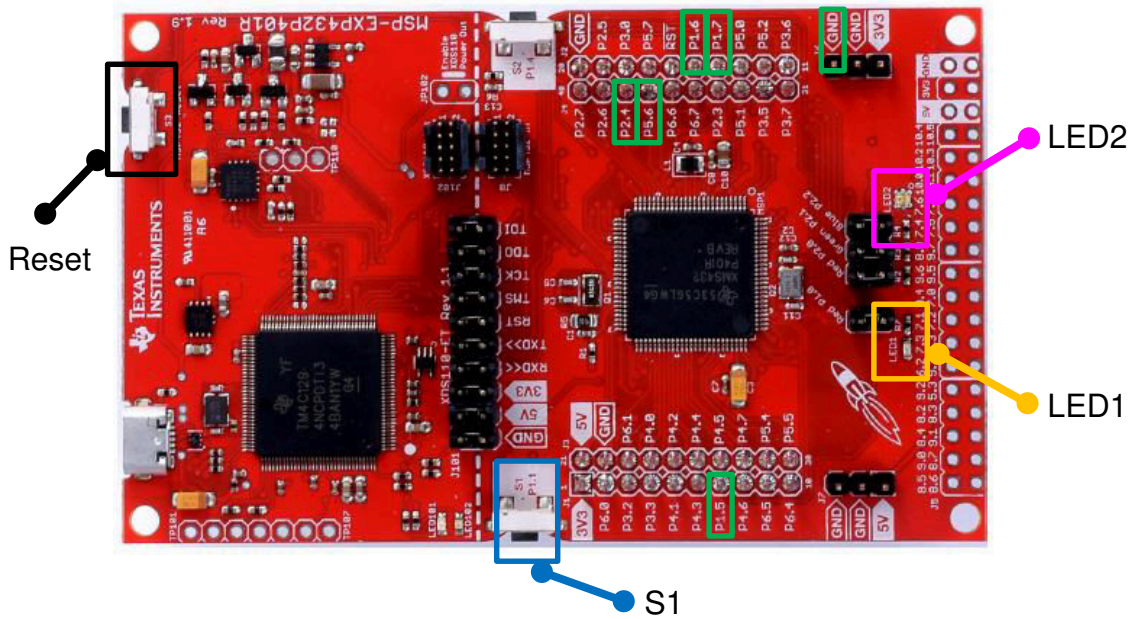

Figure 2-9. Input and Output Interface of MCU Launchpad
Step 1: Power on the DC power supply and reset MSP-EXP432P401 Launchpad. The reset button is shown in Figure 2-9.
Step 2: All white LEDs of TLC6C5748EVM board will be on and LED2 is on with green color if there are no problems. Otherwise, The LED1 and LED2 shown in Figure 2-9 will be on with red, blue or purple color to indicate the specific fault. The control signals of TLC6C5748-Q1 and the meanings of different status of LED1 and LED2 are summarized in Table 3-1. The number of LED short and LED open fault can be read back respectively through expressions in CCS along with the location of fault pins. Please refer to the concrete steps for adding watching expressions in CCS IDE. The meaning of fault data can be found from the comments in User_Param_Config.h file in the project of the sample code.
Step 3: Press S1 of MSP-EXP432P401 Launchpad shown in Figure 2-9 will switch the brightness of all The LEDs.